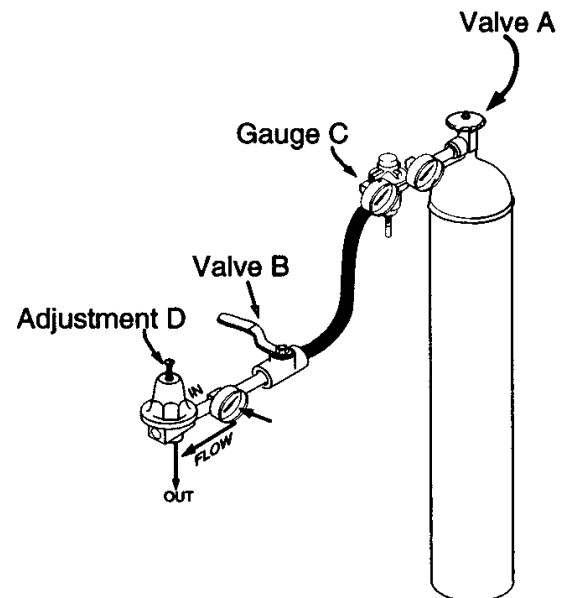

Figure 1
3. Connect gas source as shown in Figure 1. Use a ¼ inch diameter piece of stainless steel tubing with a Parker A-Loc or Swagelok® compression fitting already pre-swaged onto it similar to the economizer tube fitting removed in previous step. Attach the fitting directly to the brass elbow attached to the economizer. Use only natural gas, nitrogen, or argon for this test.
4. Open valve (A) at the pressure source (follow appropriate safety rules).
5. Slowly open valve (B) just enough to allow some gas to escape.
6. Pressure gauge (C) will indicate the setting to which the economizer regulator is set. Increase setting by turning economizer regulator adjusting screw (D) in or lower setting by turning the adjusting screw out.
8. Close valve (B). Ensure economizer will hold at the set pressure and the valve seat is clean. There should be no significant leakage. If there is leakage, remove economizer and inspect for debris on valve seat. Clean as necessary.